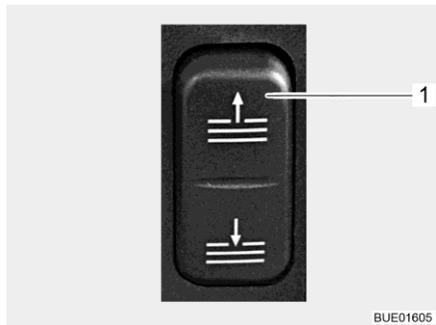

Fig. 34 Switch (electric operation of the Roman shade)
- Opening and closing: ■ Press switch on the dashboard (Fig. 34,1).